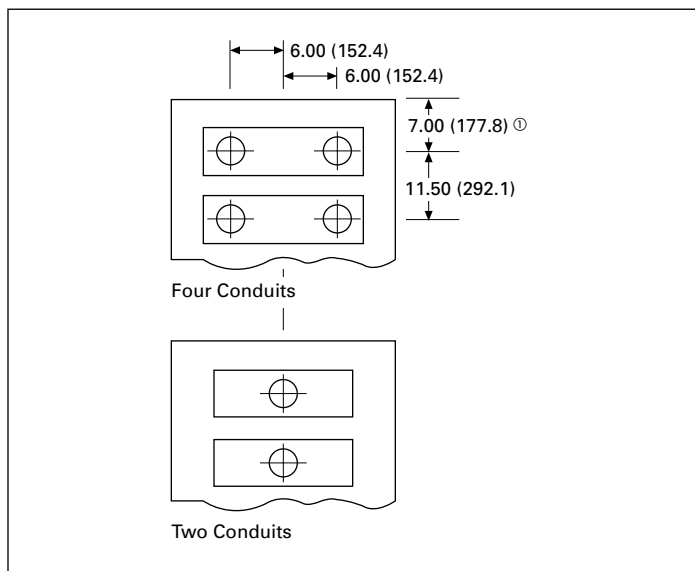

Figure 5.4-21. Primary Conduit Locations for Top or Bottom Entry—Dimensions in Inches (mm)
① Power cable entrance area. Refer to Figure 5.4-21 for typical conduit locations. Refer to shop drawings for order specific locations.
- ① Power cable entrance area. Refer to Figure 5.4-21 for typical conduit locations. Refer to shop drawings for order specific locations.
- ② Recommended minimum clearance to rear of VacClad-W: 36.00 inches (914.4 mm).
- ③ Floor steel, if used, must not exceed this dimension under VacClad-W.
- ④ Anchor locations: 5A and 5B for seismic applications, 5A only for non-seismic application. For indoor, use 0.5-inch (12.7 mm) bolts or weld.
- ⑤ Station ground connection provision.
- ⑥ Secondary conduit space: All—maximum of 1.00-inch (25.4 mm) projection.
- ⑦ Minimum clearance to LH side of VacClad-W. Minimum clearance to RH side of the switchgear: 6.00 inches (152.4 mm).
- ⑧ Finished foundation surface shall be level within 0.06-inch (1.5 mm) in 36.00 inches (914.4 mm) left-to-right, front-to-back, and diagonally, as measured by a laser level.
- ⑨ Minimum clearance to front of VacClad-W.